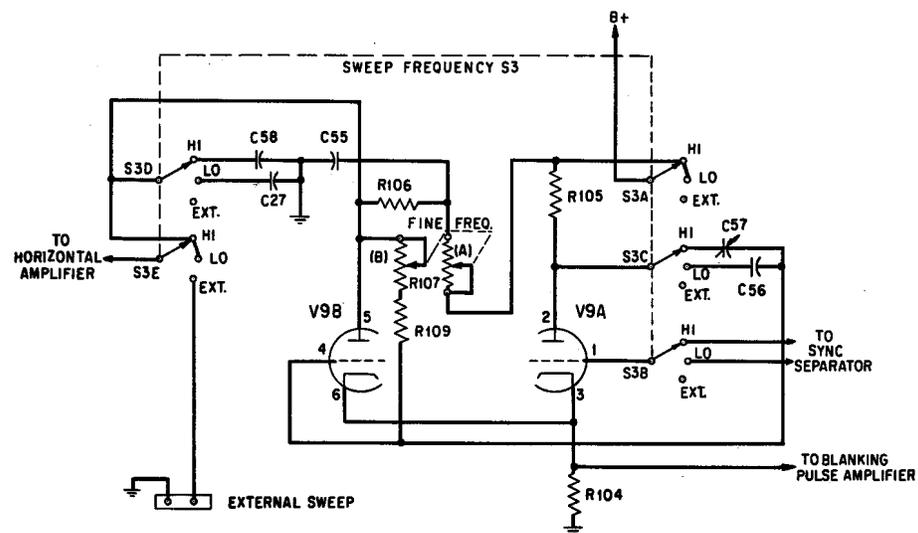

Fig. 11 – Sweep Generator
**4.19** Horizontal sweep voltages are developed in the sweep generator tube, a dual triode, V9A and V9B, operated as a cathode coupled, multivibrator. (Fig. 11.) Two basic saw-tooth sweeps of line and frame rates are developed, and may be selected with the SWEEP FREQUENCY switch, S3. These sweep rates are made variable over a reasonable range determined by the FINE FREQUENCY control, R107A and R107B. The output of the sweep generator is from the plate circuit of V9B, through switch S3 to the horizontal amplifier. Sync signals from the sync separator section are coupled selectively to the grid of V9A, through the switch S3. The pulse developed across the cathode resistor R104 as a result of the multivibrator action is used in the return trace blanking circuit. An external sweep signal may be used by switching the SWEEP FREQUENCY switch to EXT, and inserting the signal at the EXT SWEEP jack.